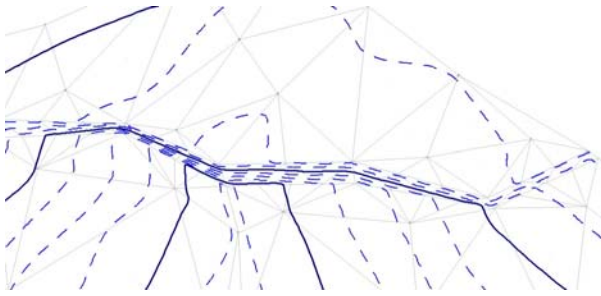

Figure 14-12. Display of Major and Minor Contours
6. Check the report to ensure the DTM is accurate. Click **Surface ▶ DTM Tools ▶ Check Breakline** to work through any crossing breaklines (Figure 14-12 on page 14-9).